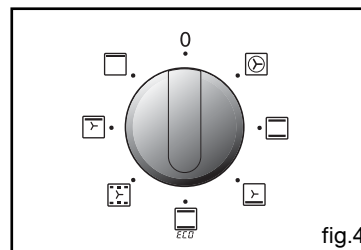

fig.4
- the cooking time indicator and 00:00 both flash (fig.4),
The display shows the time once again when the function selector switch is returned to 0 (fig.4).